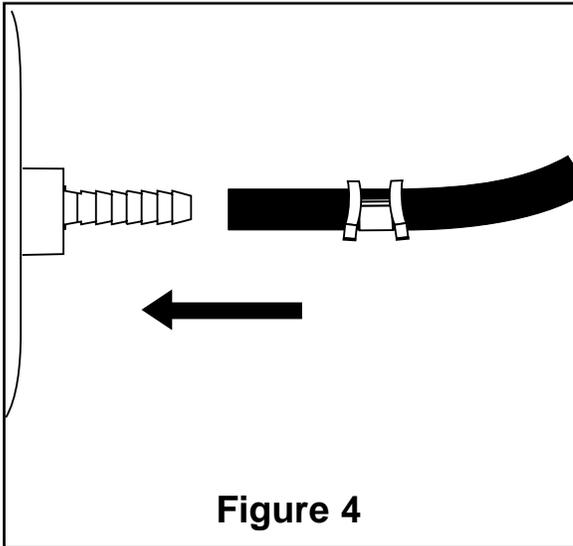

Figure 4
- E. Push the air line onto the stem, covering all the barbed section (Figure 4). With pliers slide the air line clamp forward until it fully covers barbed section.